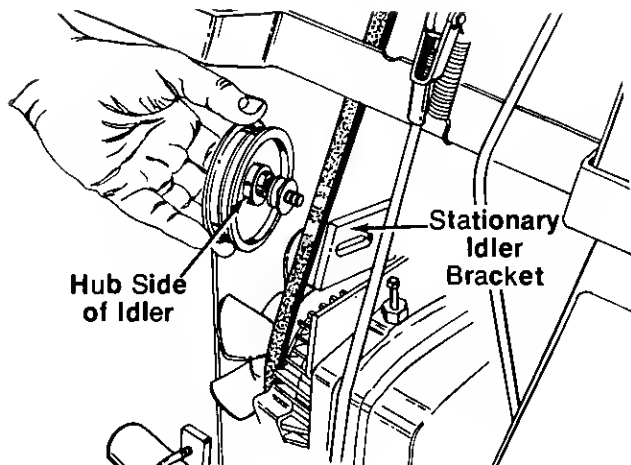

FIGURE 30.
1. Loosen (do not remove) the hex bolt and nut at the stationary idler bracket. Refer to figure 30.
Upon reassembly of idler pulley at pump, the hub side of idler and flat washer must go against the stationary idler bracket, as shown in figure 30.